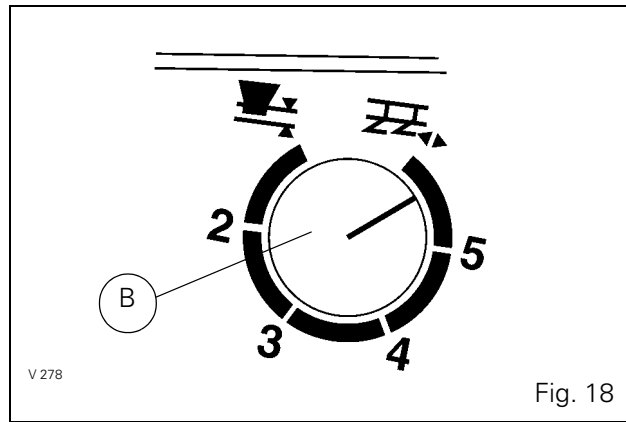

Fig. 18
- Choose the appropriate control method (draft, position or intermix control), depending on the implement, the ground conditions and the type of work, using selector knob B (Fig. 18).